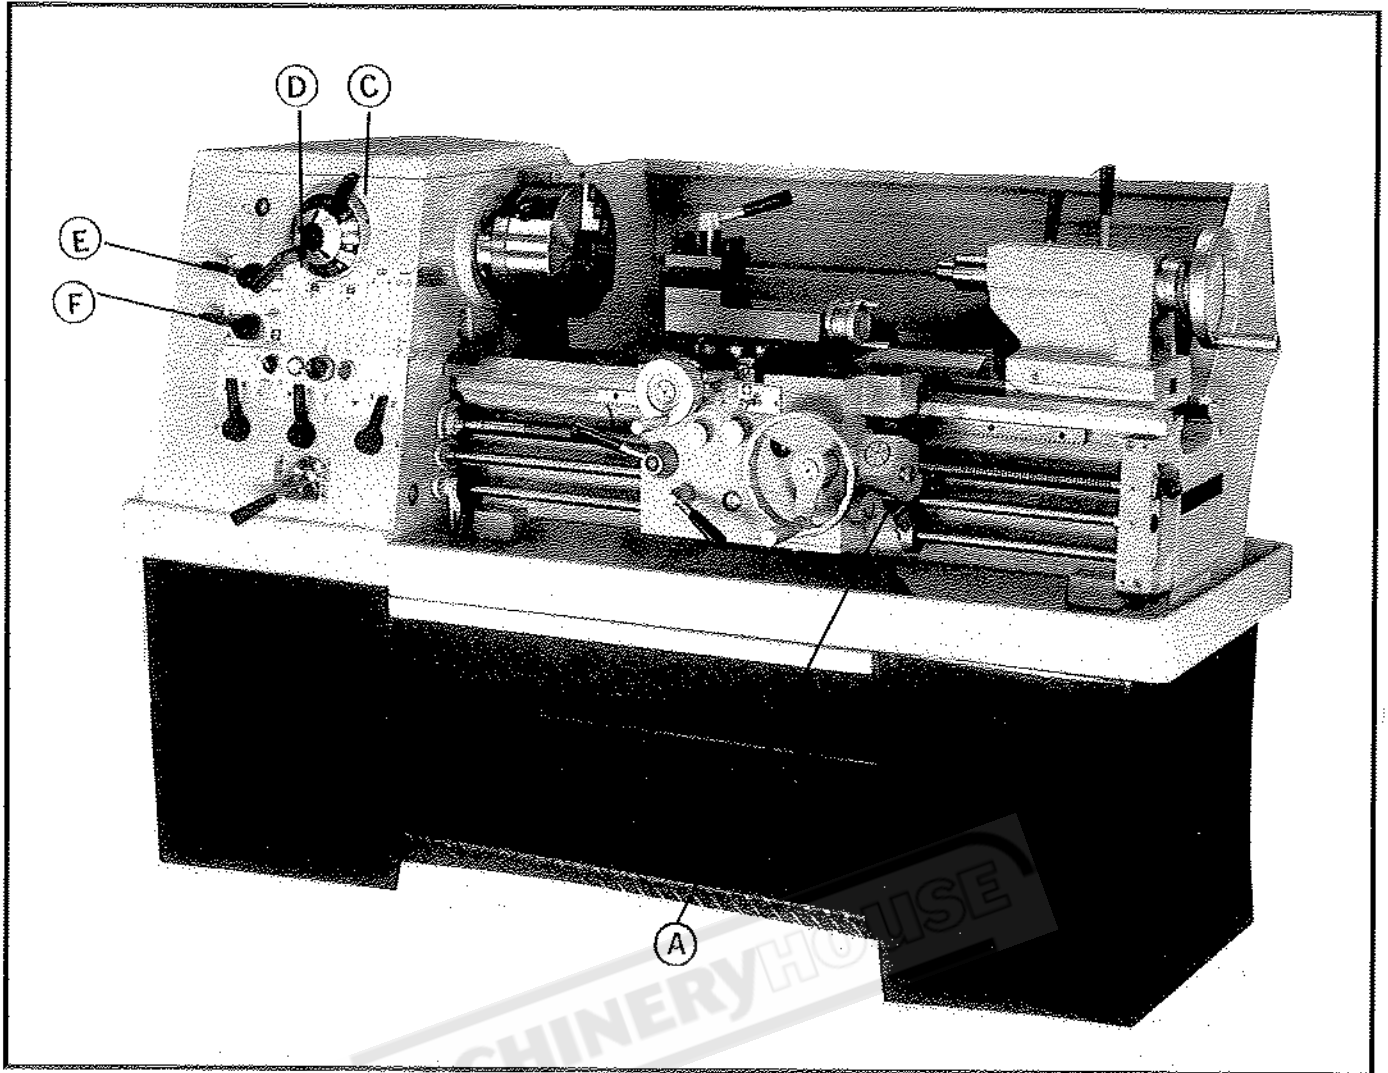

Fig.9
**SPINDLE ROTATION:** Selected by the lever controls A (Fig 9). The apron gated lever A for forward off reverse selections.